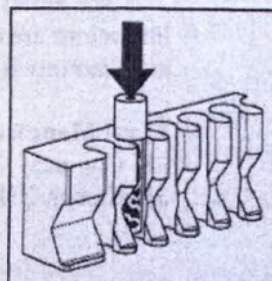

Figure 3
5. Push the activated indicator down to seat it in the metal heating block (See Figure 3). Be sure that the cap remains above the metal block. Refer to the Attest Biological Indicator 1264 Instructions for Use for further directions for use, including the interpretation of results and use of controls.